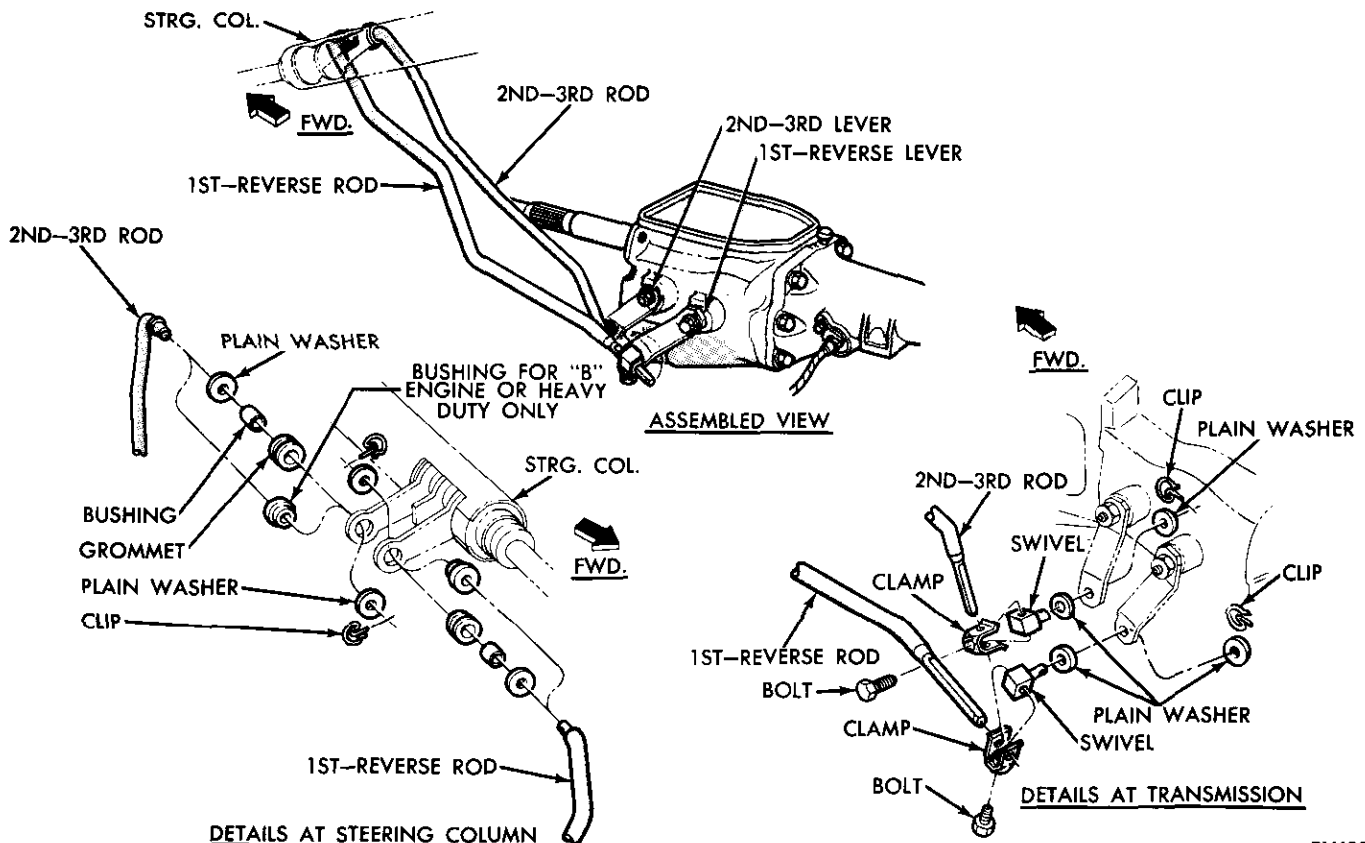

Fig. 43—Column Shift (A-230)
(1) Remove both shift rod swivels from transmission shift levers (Fig. 43).
(2) Make sure transmission shift levers are in neutral (middle detent) position.
(3) Move shift lever to line up locating slots in bottom of steering column shift housing and bearing